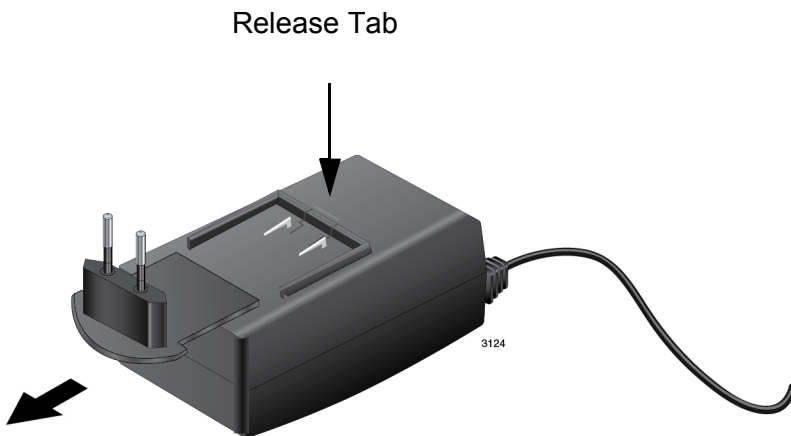

Figure 6. Removing an AC Plug from the AT-TQ0091 AC/DC Power Adapter
8. Check the AC plug on the AC/DC Power Adapter to see if it is the correct plug for your region. If it is not the correct plug, remove it by pushing down on the release tab and sliding it from the slot on the adapter. Refer to Figure 6.
4. Check the AC plug on the AT-TQ0091 AC/DC Power Adapter to see if it is the correct plug for your region. If it is not the correct plug, remove it by pushing down on the release tab and sliding it from the slot on the adapter. Refer to Figure 6 on page 31.